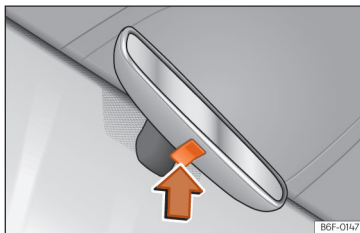

Fig. 108 Manual anti-dazzle function for rear vision mirror
- To darken the rear view mirror, press the mirror button updates >>> **Fig. 108** (arrow).